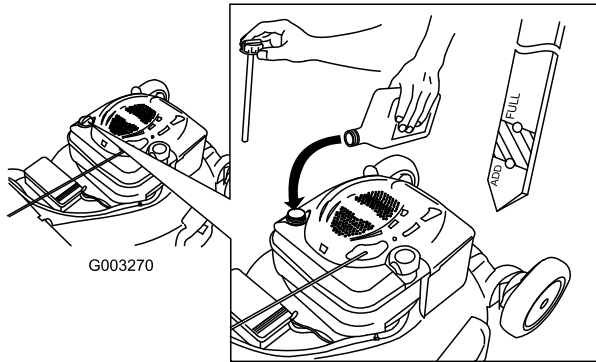

Figure 10
- Remove the dipstick (Figure 10).
- Remove the dipstick and read the oil level; refer to Figure 10.